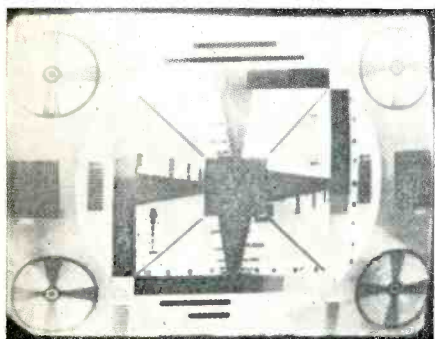

Figure 3
91.2 dbu, the KE2XZJ field 84.4 dbu, thus a difference or ratio of -6.8 dbu. The lower picture, Fig. 3, shows the same conditions except the offset frequency is 10,035 cycles.